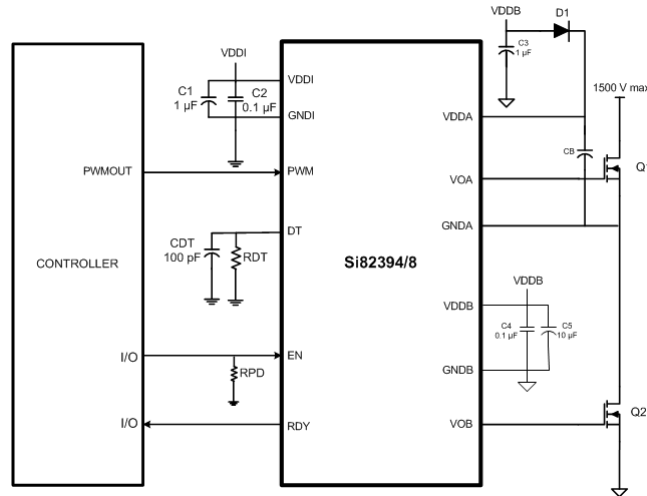

Figure 3.1. Si82394/8 Application Diagram
All high-side/low-side drivers (Si82394/8) include programmable dead time, which adds a user-programmable delay between transitions of VOA and VOB. When enabled, dead time is present on all transitions. The amount of dead time delay (DT) is programmed by a single resistor (RDT) connected from the DT input to ground per the equation below. Note that the dead time pin should be connected to GND1 through a resistor between the values of 6 kΩ and 100 kΩ and a filter capacitor of 100 pF in parallel as shown in Figure 3.1 Si82394/8 Application Diagram on page 14. It is highly recommended it not be tied to VDD1. See Figure 2.18 Dead Time Waveforms for High-Side/Low-Side Drivers on page 13 below.